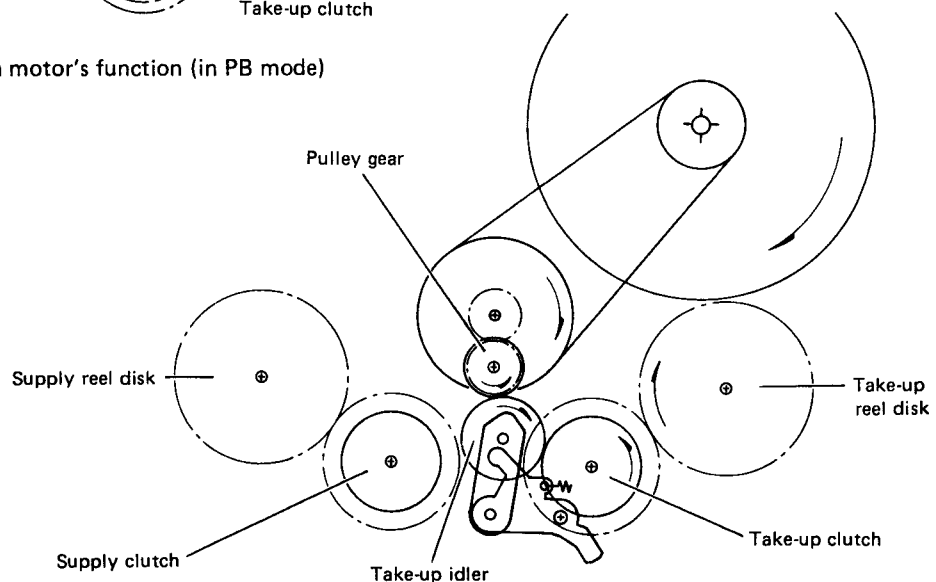

Fig. 7-5-2 Capstan motor's function (in FF mode)
In the FF (Fast Forward) mode, rotation of the capstan motor is directly transmitted to the take-up reel disk. (See Fig. 7-5-2.)
5. The capstan motor is rotating to forward and rewind tape. (Fig. 7-5-2)
4. The capstan motor rotates to transport and rewind tape. (Fig. 7-5-2)
5. The tension pole releases tape from back-tension by function of the cam (1).